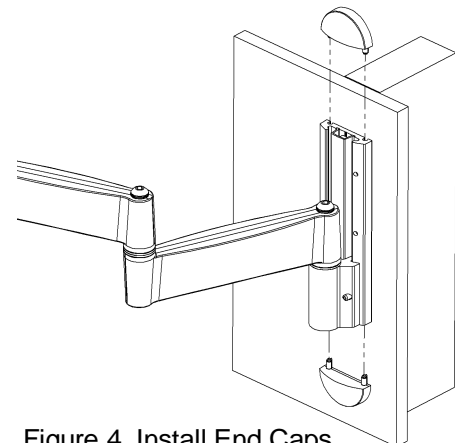

Figure 4. Install End Caps
- B. Install the end caps on the iC-SP-DA1 wall plate (see Figure 4).
- J. Install the end caps on the iC-SP-DA1 wall plate (see Figure 4).